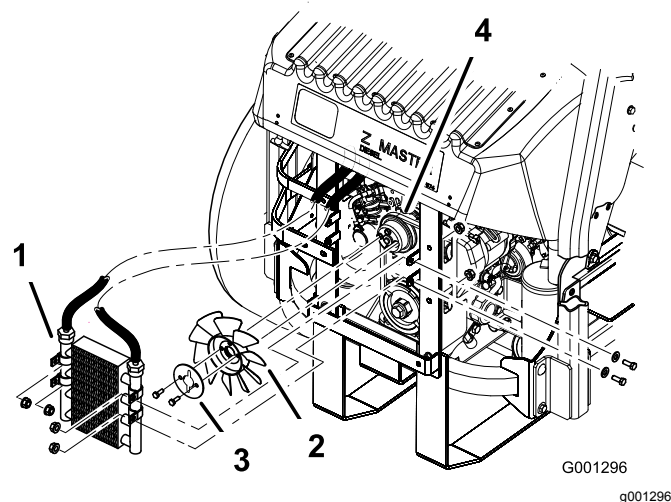

Figure 82
5. Remove the 4 bolts holding the oil cooler and position the oil cooler to the side (Figure 82).
6. Remove the 2 bolts holding the fan and fan plate to the machine (Figure 82).
10. Install the fan and fan plate to the machine with the 2 bolts previously removed (Figure 82).
11. Install the oil cooler with the 4 bolts previously removed (Figure 82).